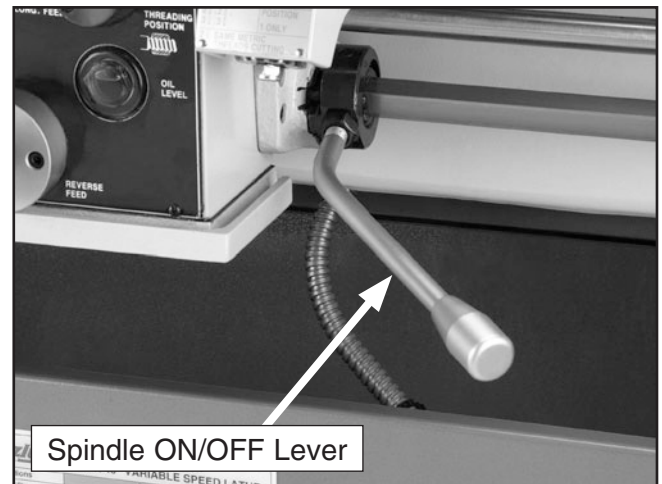

Figure 70. Spindle ON/OFF Lever.
3. Move the spindle ON/OFF lever (**Figure 70**) to start/stop spindle and chuck rotation.